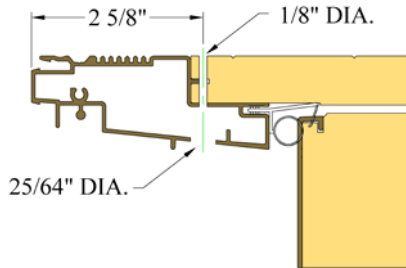

Fig. 16
- D) Measure in from the exterior side of the unit $2\frac{5}{8}$ " and mark this at four equally spaced points along each side jamb and three equally spaced points along the head jamb. Then drill a $\frac{1}{8}$ " pilot hole through the entire unit at each of the 11 marked places. (Fig. 16)
- E) After the pilot hole has been created, drill a $\frac{25}{64}$ " hole through the aluminum cladding only. (Fig. 16)